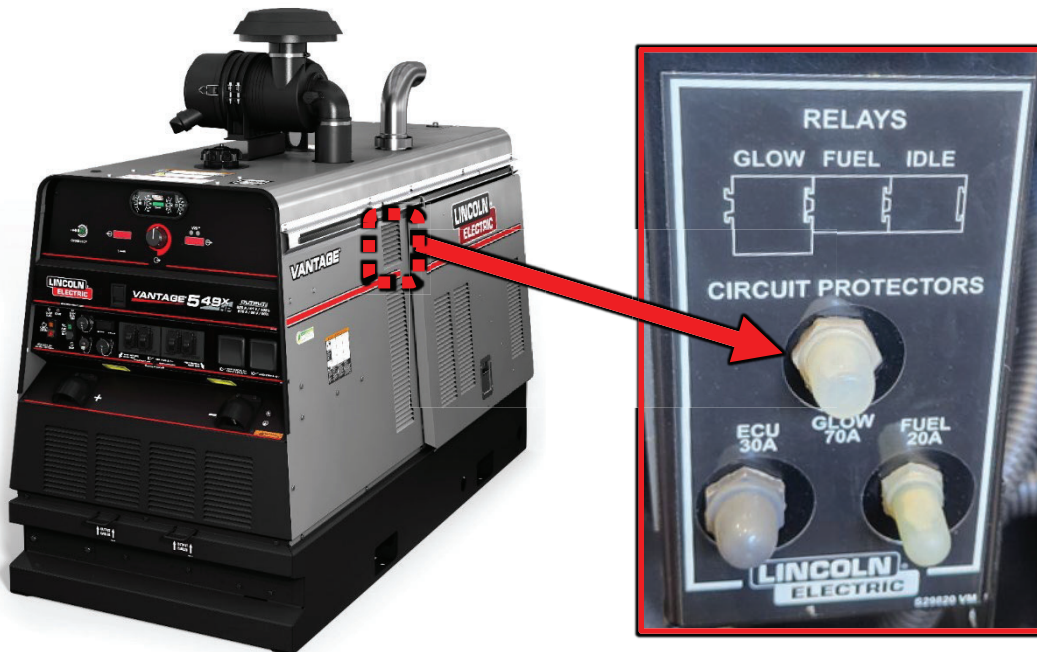

Figure F.1
1. For location of CB5 refer to Figure F.1.